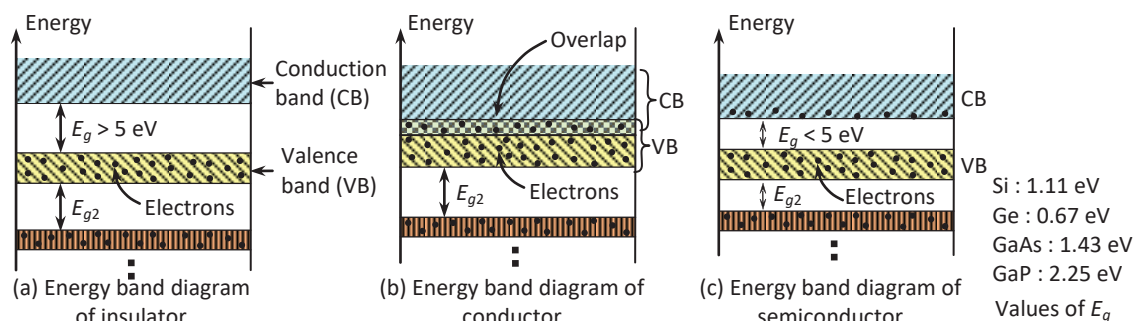

Fig.2-2: Energy band diagrams of different materials
The materials that cannot carry electricity (flow of charge) are called **insulators**. The energy gaps ( $E_g$ ) of these materials are very high so no electrons can get sufficient energy from external sources to go to the conduction band [Fig.2-2(a)]. Generally, the values of  $E_g$  of insulators are greater than 5 eV (electron-volt). Examples of insulators are rubbers, plastic, wood, cloths etc. Rubbers and plastics are used as insulating cover of electrical wire.
The materials that can carry electrical current easily are called **conductors**. In these materials, there is no energy gap between the conduction band and the valence band. In fact, there is an overlap between the conduction band and the valence band [Fig.2-2(b)]. For the overlap of the bands, some electrons of the valence band also possess the energy of the conduction band. These electrons behave as free electrons and can carry electrical current easily. Examples of conductors are silver, gold, copper, aluminum etc. The conductivity order of some common materials are: silver (Ag) > copper (Cu) > gold (Au) > aluminum (Al) > zinc (Zn) > nickel (Ni) > brass > bronze > iron (Fe).
In between conductors and insulators, there are some materials called **semiconductors**. They are neither good conductor nor insulator. The materials with  $E_g < 5$  eV are called semiconductors [Fig.2-2(c)]. At absolute zero temperature, the conduction bands of these materials are completely empty, i.e., they have no free electrons. But at room temperature, some electrons of valence band can gain sufficient energy to jump to the conduction band. Thus, at room temperature they can carry electricity, but their resistivity is high compared to that of conductors. Examples of semiconductors are: silicon (Si), germanium (Ge), boron (B), phosphorus (P) etc. At room temperature, the values of energy gaps of some common semiconductors are given in Fig.2-2(c).